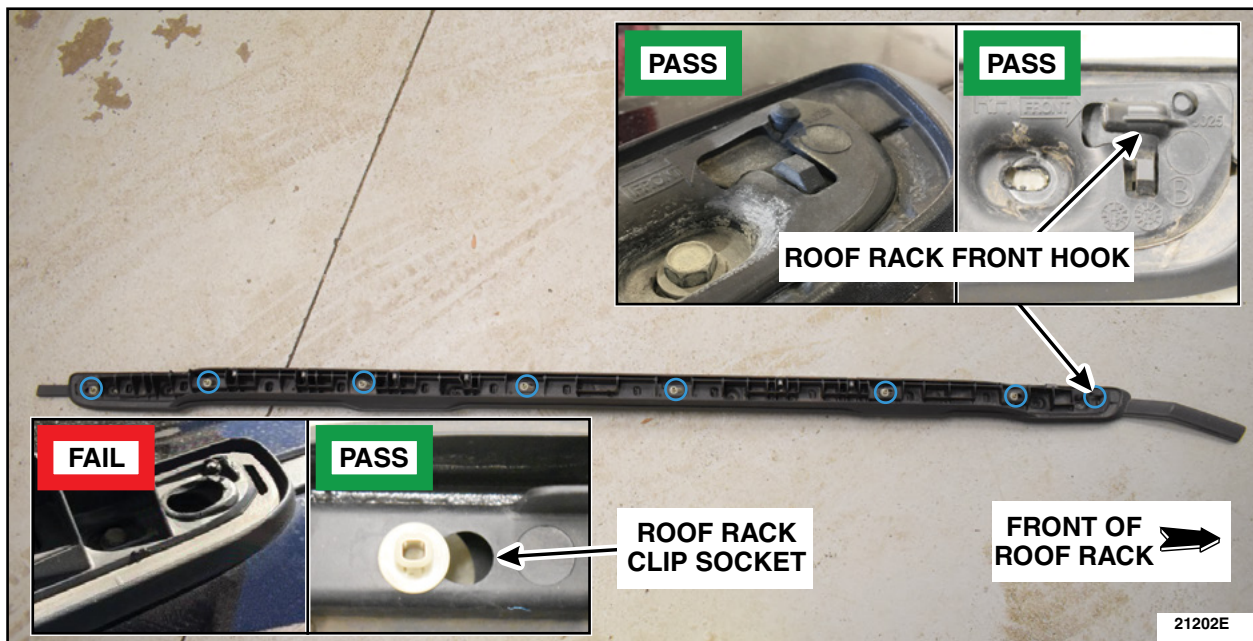

FIGURE 6
b. Inspect the affected roof rail base. See Figure 6.